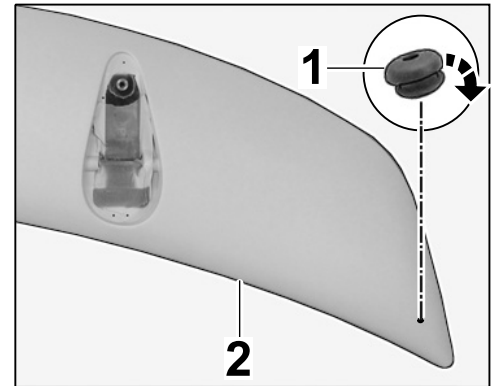

Figure 12
3.2.1 Fit rubber buffer (2 x) on the underside of the upper part of the Aerokit rear spoiler into the relevant bore (⇒ *Figure 12*).